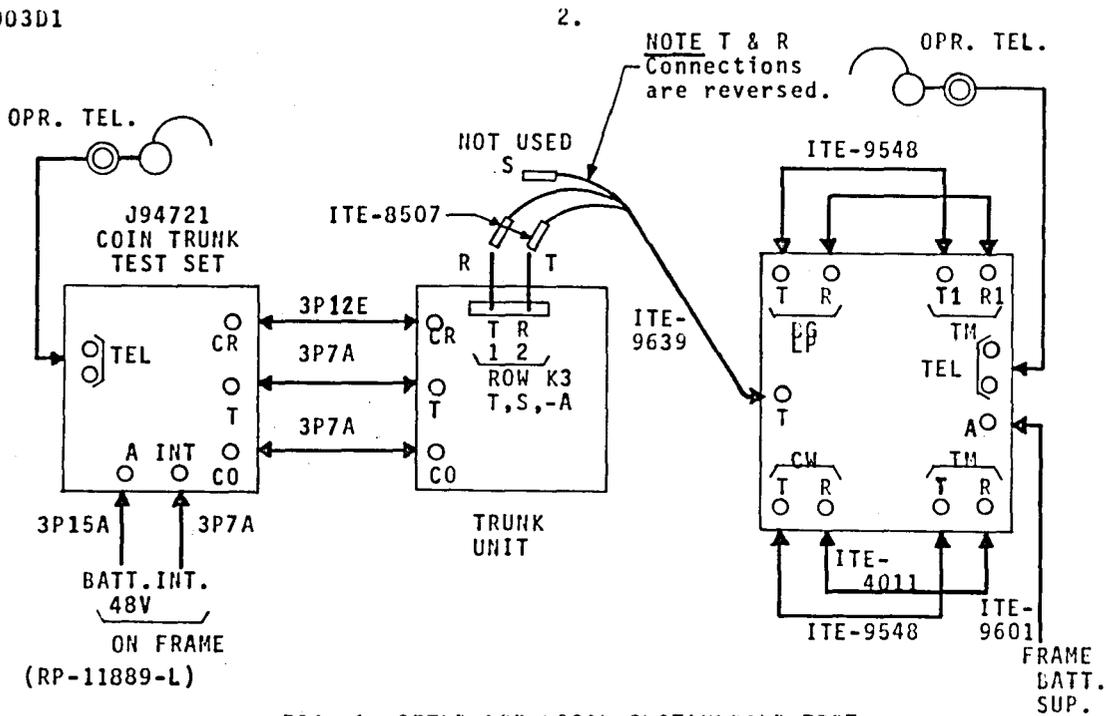

FIG. 1 SETUP FOR LOCAL SWITCHBOARD TEST (para. 6.01 to 6.20)
1.2 Test Method: When cross-connections are installed by the Western Electric Company, the routine test should be made between the trunk frame and the switchboard using the test setup shown in Figure 1 (see Paragraph 4.1). The test is outlined in Paragraphs 6.01 to 6.20. When cross-connections have not been installed, the routine test should be made between the trunk frame and the distributing frame using the test setup shown in Figure 2 (see Paragraph 4.2). The test is outlined in Paragraphs 6.01 to 6.14 and 6.21 to 6.26. All other tests outlined herein should be made for either condition.
- % - When Figure 1 test setup is used (see Paragraph 1.2), only 1 required.
- 4.1 Figure 1 is used when testing from the local switchboard. The ITE-4011 test set is located at the trunk frame and substitutes the functions of the sender tandem office.
6.011 Prepare a test setup as shown in Figure 1 or Figure 2 of Paragraph 4; depending on job conditions (see Paragraph 1.2).